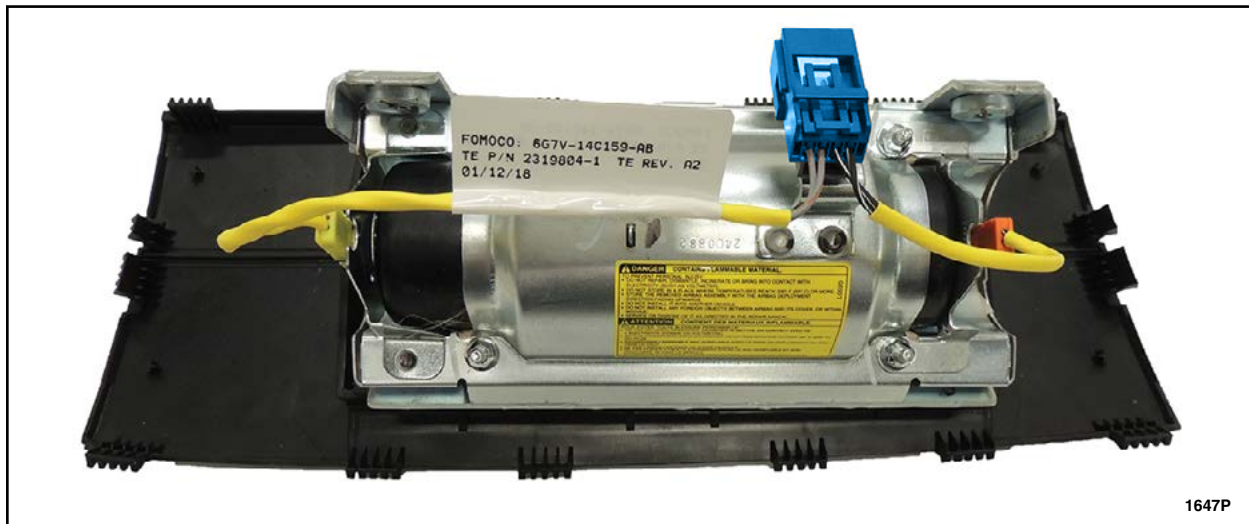

FIGURE 16
11. Align the T-shape index on both the wiring harness electrical connector and the airbag inflator. Install the *new* wiring harness onto the passenger airbag module and connect to both sides of the inflator. See Figure 16.